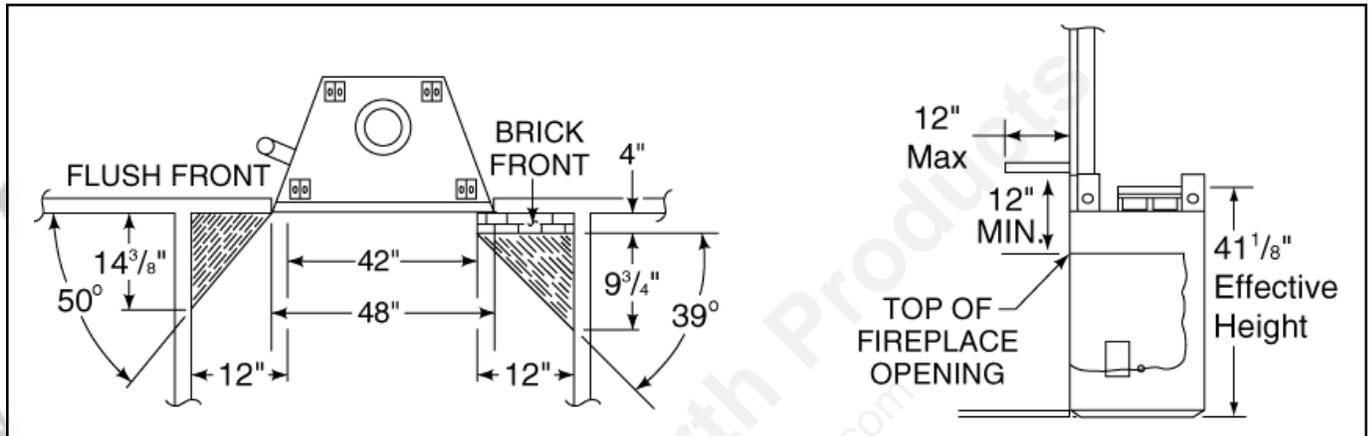

Figure 7
Adjacent combustible side walls must be located a minimum of 12" from the fireplace opening. See Figure 7. If you are using a decorative surround constructed of combustible material, it must be located within the shaded area defined in Figure 7. Short stub walls are also acceptable if they are contained within the shaded area. You must maintain adequate clearances for servicing and proper operation.
A combustible mantel may be positioned no lower than 12" above the top of the fireplace opening. The combustible mantel may have a maximum depth of 12". Combustible trim pieces that project no more than 1-1/2" from the face of the fireplace can be placed no closer than 6" from the top of the fireplace opening. However, they must not cover the black metal front of the fireplace. This mantel clearance is in accordance with **Section 7-3.3.3 of ANSI/NFPA 211**. Combustible trim pieces can also be located in the shaded areas shown in Figure 7.
- 6) The effective height of the fireplace assembly is 33". Effective height of fireplace assembly is measured from base of the fireplace to top of starter collar. See Figure 7.